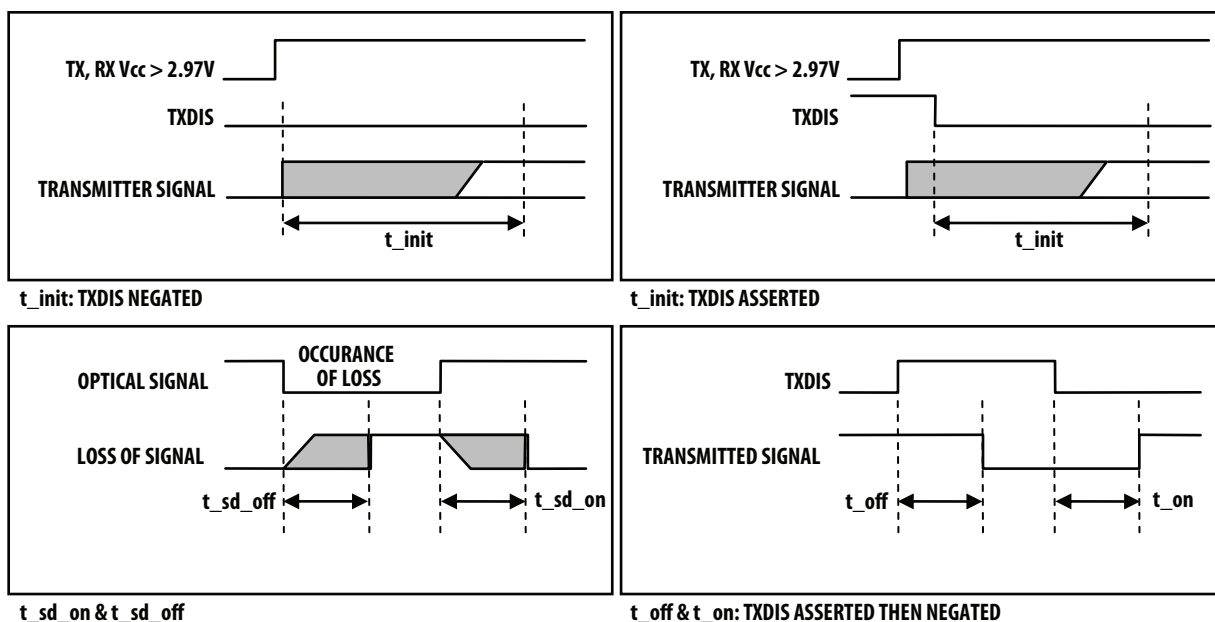

Figure 5. Timing diagrams
1. The case temperature is measured at the surface of the topside (see figure 5 Module drawing) using a thermocouple connected to the housing.